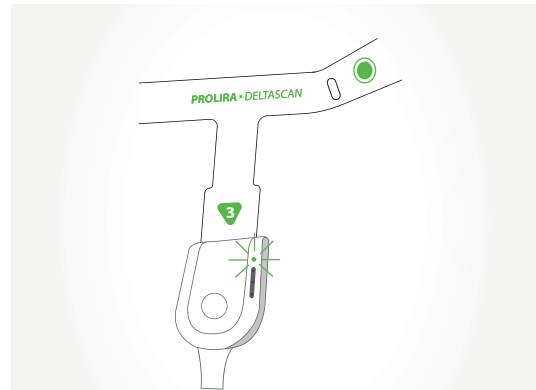

Figure 21: The Connection-LED is green if the DeltaScan Patch is well connected.
- Check if the Connection-LED (the top LED on the Patch connector) turns green, to indicate that the Patch is well connected (see Figure 21).